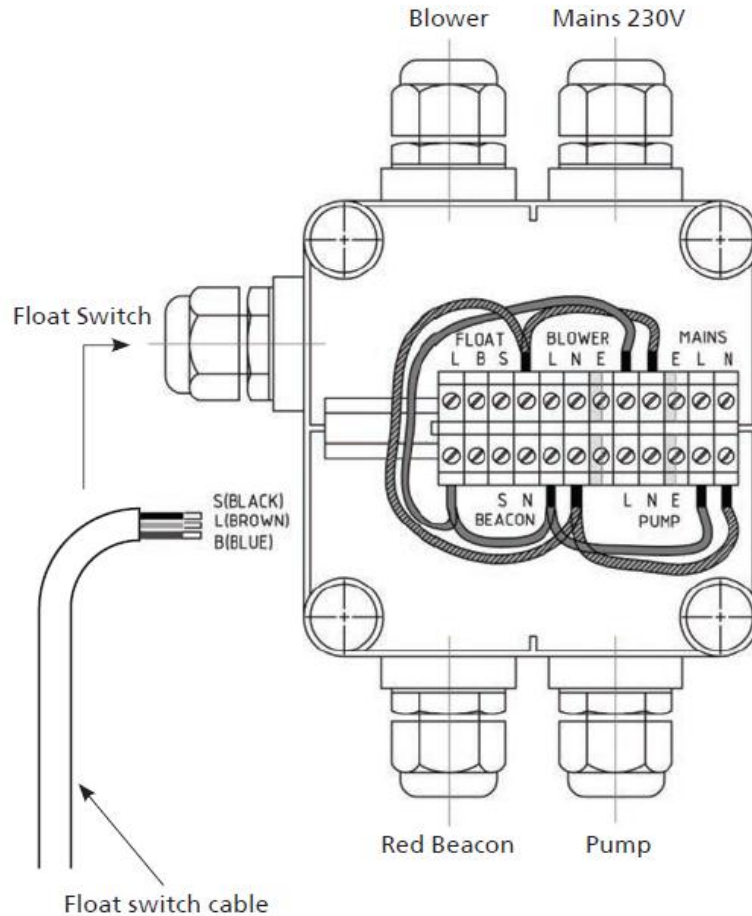

Figure 2. Wiring Layout for Junction Box
### 5.2 Electrical Installation (see figure 2)
6. See figure 2. Wiring Layout for this Junction Box.